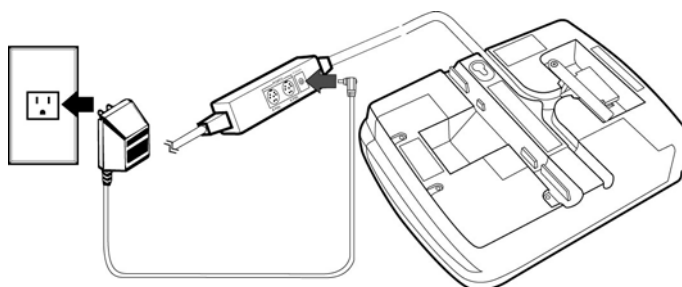

Figure 26 Power Pack Connection
This section describes how to connect the Omni 7xxxMPD series terminal to a power source with the multiport cable (see Figure 26).
- 2 Insert the multiport cable connector into the port on the back of the Omni 7xxxMPD series terminal (see Figure 26).
5 Plug the power pack into an indoor electrical power outlet (Figure 26).